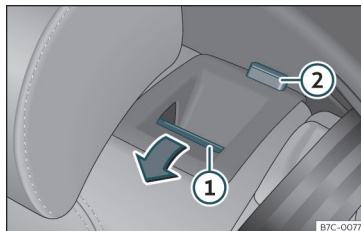

Fig. 128 On the rear seat backrest: release button ①; red mark ②.
- Push the unlock button >>> Fig. 128 ① forwards and at the same time lift the backrest.
- The rear seat backrest is not engaged when the red marking of the button ② is visible.
The rear seat backrest is not engaged when the red marking of the button »» Fig. 128 ② is visible.